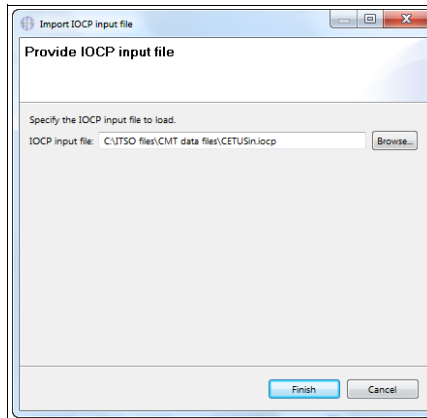

Figure 4-13 Specifying the IOCP file for import
2. Select the IOCP file on your workstation to import into the CHPID Mapping Tool and click **Finish** (see Figure 4-13).